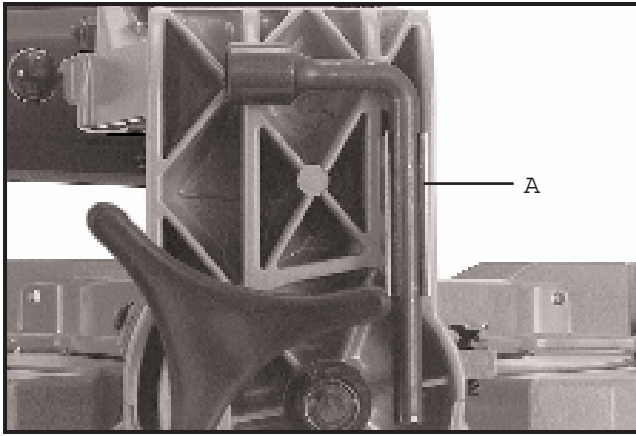

Fig. 35
A clip is provided on the rear of the saw and provides a convenient storage area for wrench (A) Fig. 35, as shown.